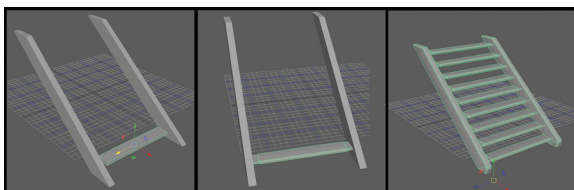

FIGURE 1.58 Creating the stair steps.
Step 11: Stairs. Duplicate the stair frame to create the other side. Snap the duplication so that their whole width together is 256 units. Create a box, make its Scale X 32, Scale Y 8, and Scale Z 200. Move it to the first stairs location. It should be around 18 units high. Bevel all the edges of the box, and extrude from the two side faces to make the connection to the frame. Bevel the bottom edge of the frame to add a little detail. Fix the N-Gon after the bevel. Finally, bevel the edges of the frame (Figure 1.58).